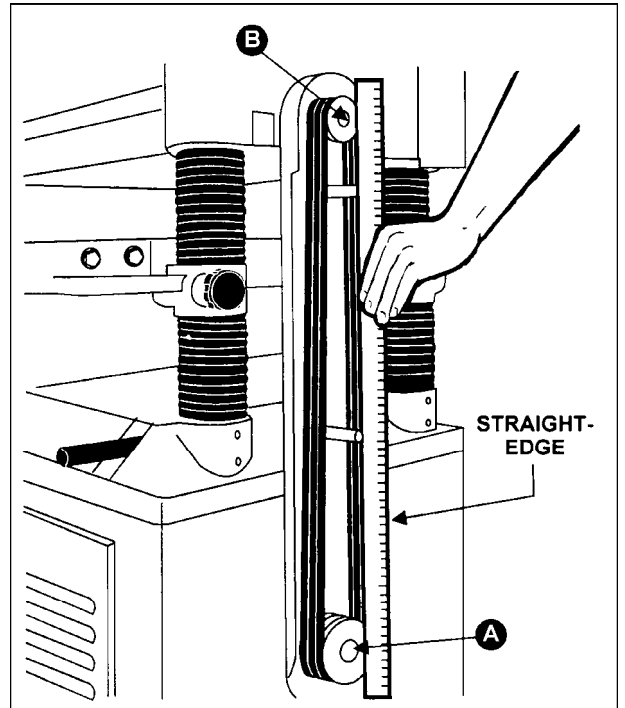
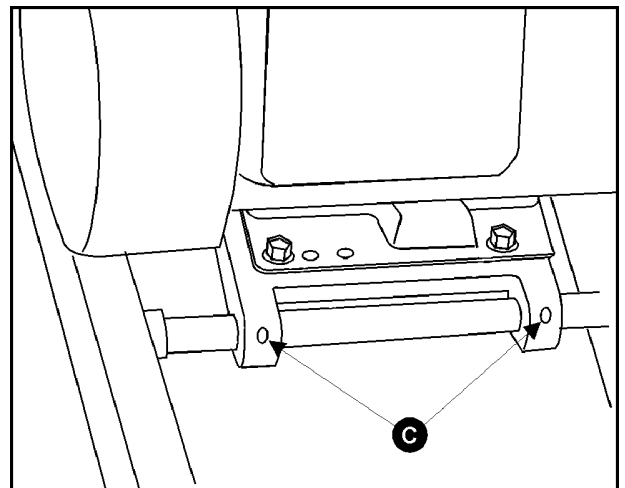

Fig. 8
Fig. 9
1. Using a straight edge, align the motor pulley (A, Fig. 8) and cutterhead pulley (B, Fig. 8). The motor plate can be moved for alignment by loosening the set screws (C, Fig. 9) in the motor plate.